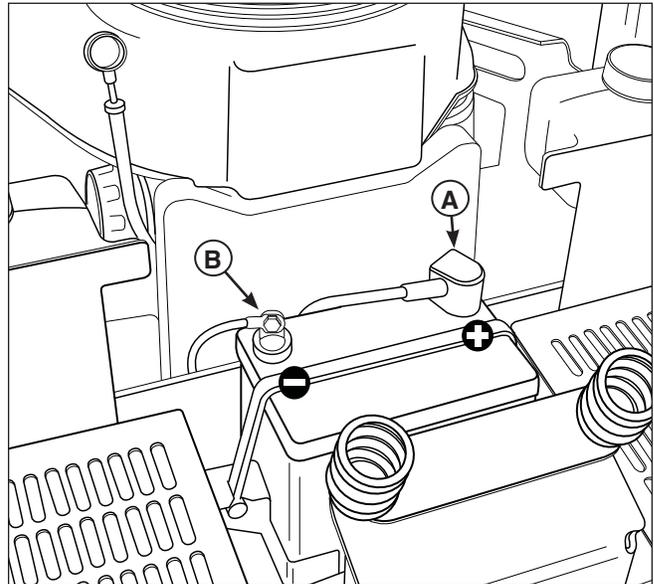

Figure 53. Battery Compartment
1. Disconnect the cables from the battery, negative (black) cable first (B, Figure 53).
3. Reinstall the battery and reattach the battery cables, positive (red) cable first (A).